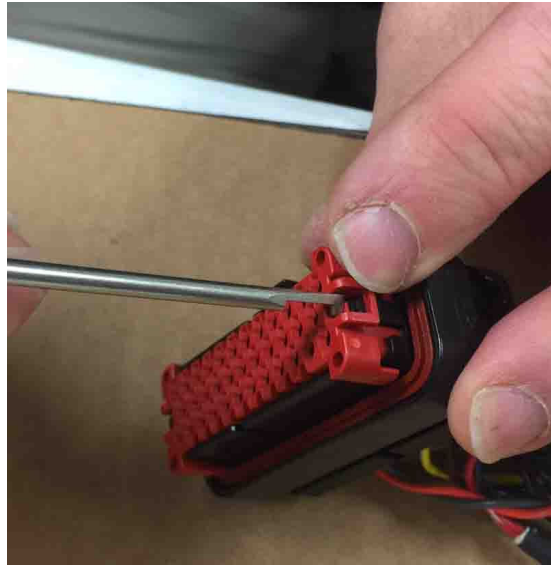

Fig. 22
7. While prying the black plastic tab away from red plastic pin capture portion of the plug, press the red piece up and away from the body of the plug. There will be a single click when the red plastic plug piece is lifted. This is an indication that the pin capture piece is in the correct orientation. (Fig. 22) Do this procedure for both sides of the plug.